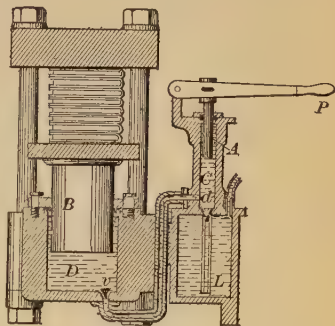

FIG. 46. — Hydraulic press.
53. Applications of the hydraulic press. This device of Pascal gives us an easy way of exerting enormous forces, such as are needed in baling paper, cotton, etc., in punching holes through steel plates, and for extracting oil out of seeds. The commercial machine (Fig. 46) is exactly like that described by Pascal except that there is usually a check valve (v) between the small piston and the big one, and the small piston is arranged to work like a pump, with a valve (d) at the bottom for admitting more oil. Often the small piston is forced down by a lever. The method of operation is simple. On the upstroke of the pump piston, the valve at the bottom of the pump opens and oil flows in from the reservoir. On the downstroke of the pump piston, the oil is forced over through the connecting pipe past the valve, and pushes the large working piston up very slightly. If the large piston is 100 times as large in cross section as the small piston (*i.e.* diameters as 10:1), the large piston is lifted only $\frac{1}{100}$ the distance the pump piston is pushed down each stroke. But since the force exerted by the large piston is, neglecting friction, 100 times that applied to the small piston, it follows that the work done on the machine is equal to the work done by the machine. If we consider the work done against friction, the equation becomes, —